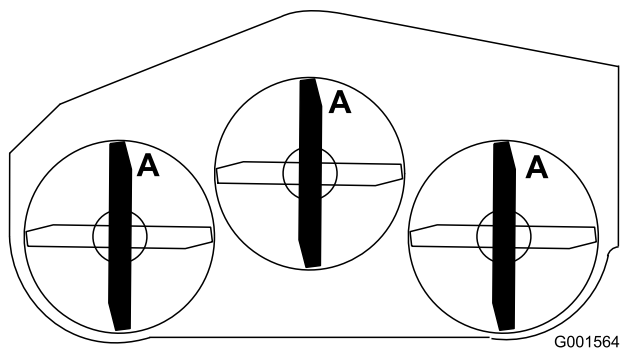

Figure 64
1. Rotate the blades until the ends face forward and backward (Figure 64).